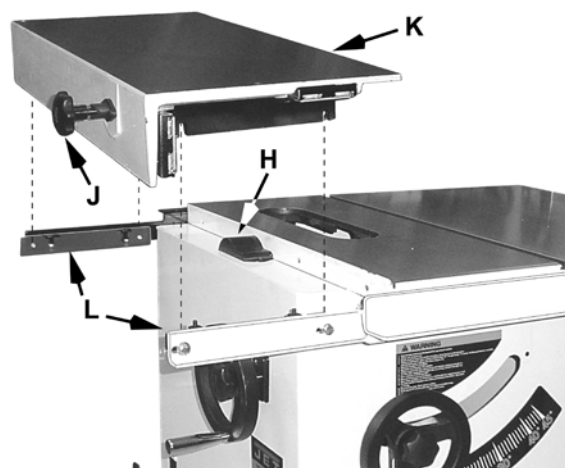

Figure 9
Note: The *arbor pulley guard* (H, Fig. 9) should already be attached to the saw cabinet.
4. Mount table *lock knob* (J, Fig. 9) to the *sliding table* (K, Fig. 9) with two M6x12 *socket head screws*. Rotate knob 90° to engage/disengage
6. Place the sliding table (K, Fig. 9) onto the leveling brackets (L, Fig. 9).